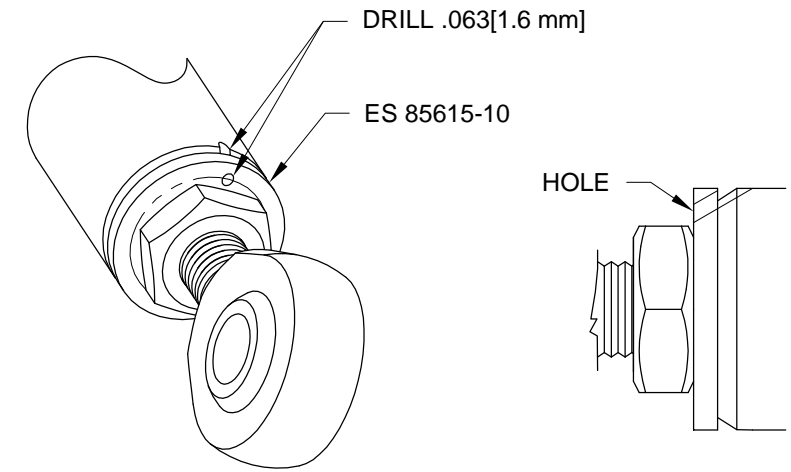

FIGURE 2: DRILLING ACTUATOR SHAFT
Step 3: Start with the drill bit perpendicular to the surface then tilt to the proper angle and drill 1/16 through the upper lip of the ES 85615-10 Linear Actuator extension shaft as shown in Figure 2. This hole should exit outside the profile of the jam-nut but within its outside diameter.